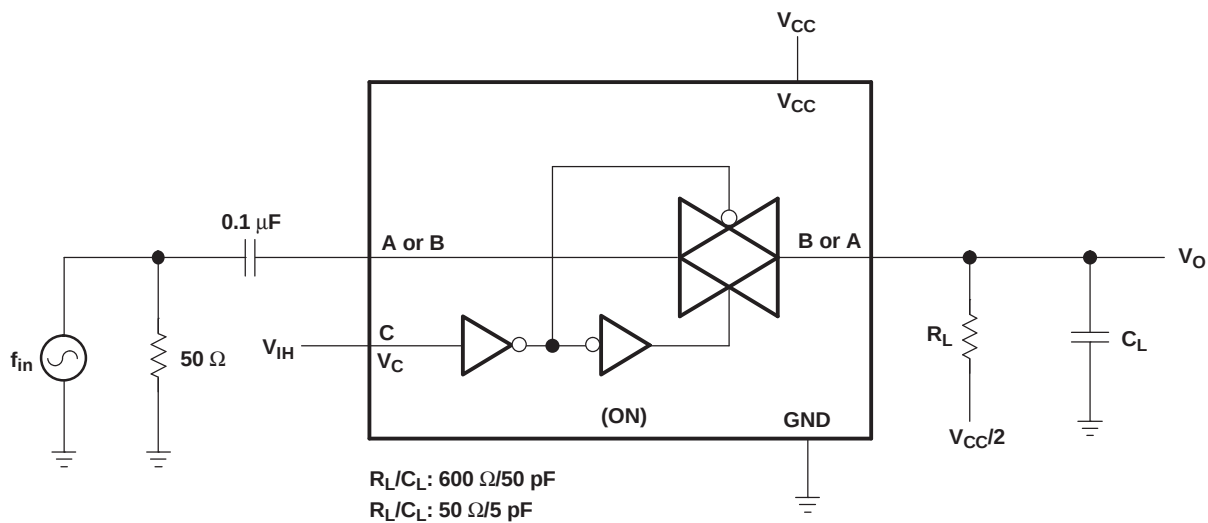

Figure 5. Frequency Response (Switch ON)
| Frequency response (1)(switch ON)       | A or B          | B or A         | $C_L = 50\text{ pF}$ , $R_L = 600\ \Omega$ ,$f_{in} = \text{sine wave}$(see Figure 5)                | 0.8 V    | 60   | MHz  |
|                                                        |                 |                | $C_L = 5\text{ pF}$ , $R_L = 50\ \Omega$ ,$f_{in} = \text{sine wave}$(see Figure 5)                  | 0.8 V    | >500 |      |